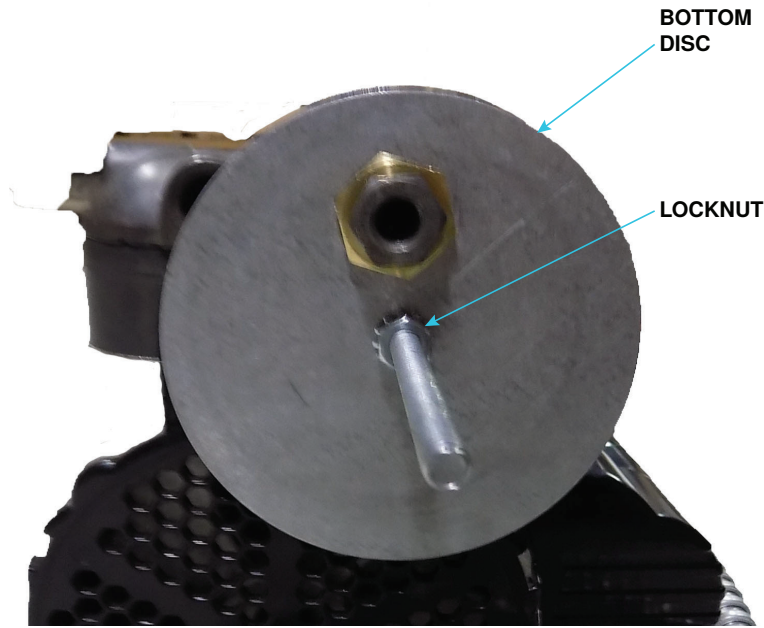

Figure 71. Air Filter Bottom Disc Installation
- b. Slide bottom disc of air filter assembly onto mounting stud and secure disc using locknut (see Figure 71).